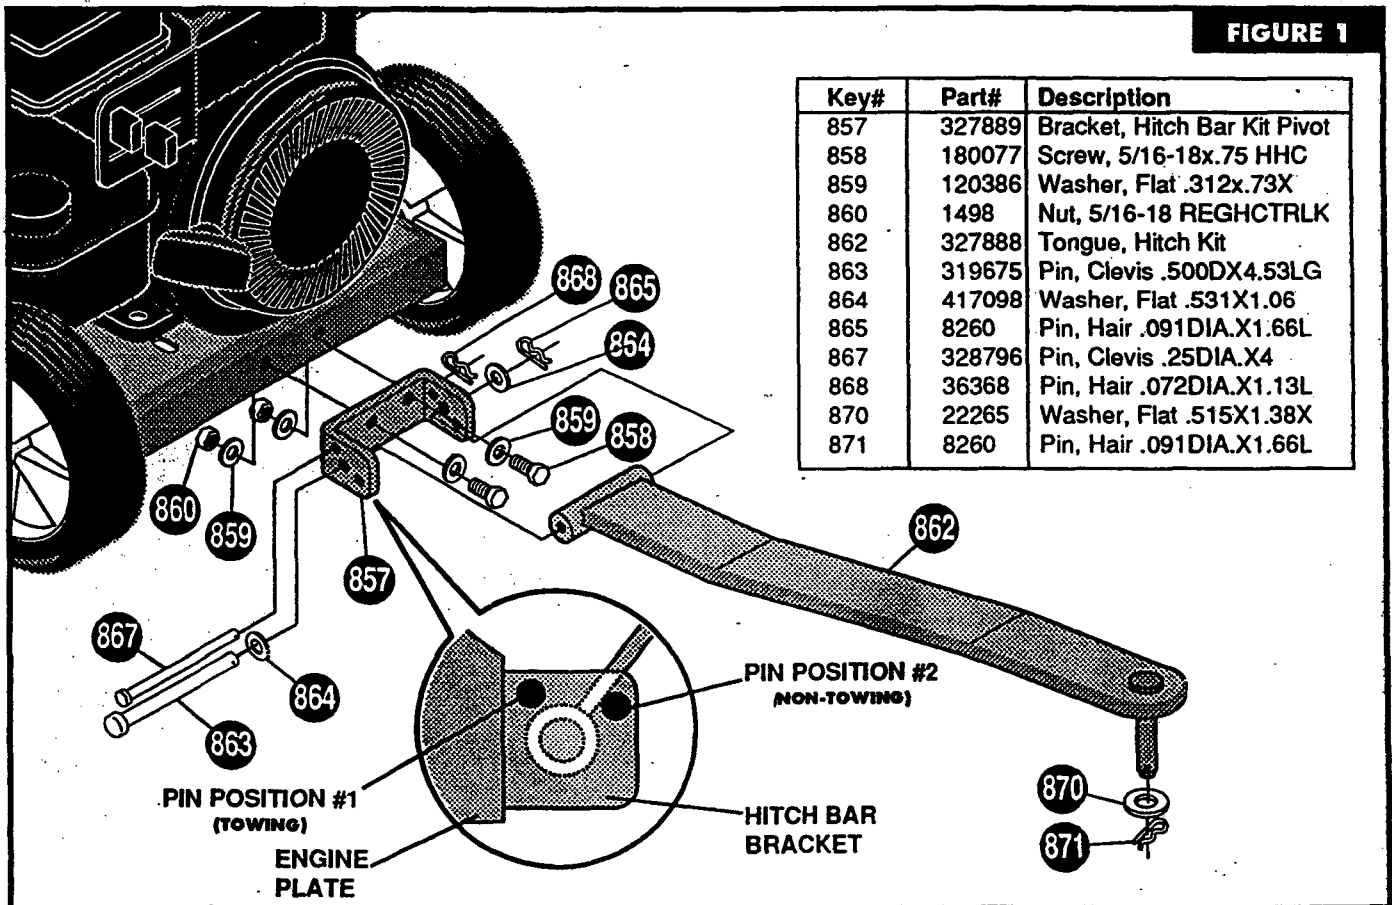

FIGURE 1
- Remove hose attachment from carton and remove the (2) straps holding the handle to the tube.
- With the engine stopped, insert the hose attachment adapter (#730) into the hopper assembly tube (See Fig.1) and turn approximately 1/6 of a turn counterclockwise until the adapter locks in place.
- Position pivot bracket as shown in Fig. 1, aligning (2) holes in pivot bracket with (2) holes in front of the engine plate.
- Position tongue (#862) with pin facing downward and away from unit as shown in Fig. 1.
- Attach tongue to pivot bracket using clevis pin (#863), flat washers (#864) and hair pin (#865) (See FIG. 1).
- Install clevis pin (#867) and hair pin (#868) into desired hole position (See FIG. 1). Position #1 is used when towing the Chipper/Shredder. Position #2 is used to support the tongue, when not towing, for normal operation.
- Using a 1/2" wrench, remove four 5/16-18 locknuts (Item C), spring washers (Item B), and one existing leg support (Item A) from the unit. (See Figure 1)
Position pivot bracket as shown in Fig. 1, aligning (2) holes in pivot bracket with (2) holes in front of the engine plate.
Position tongue (#862) with pin facing downward and away from unit as shown in Fig. 1.
Attach tongue to pivot bracket using clevis pin (#863), flatwashers (#864) and hair pin (#865) (See Fig. 1).
- Install clevis pin (#867) and hair pin (#868) into desired hole position (See Fig. 1). Position #1 is used when towing the Chipper/Shredder. Position #2 is used to support the tongue, when not towing, for normal operation.